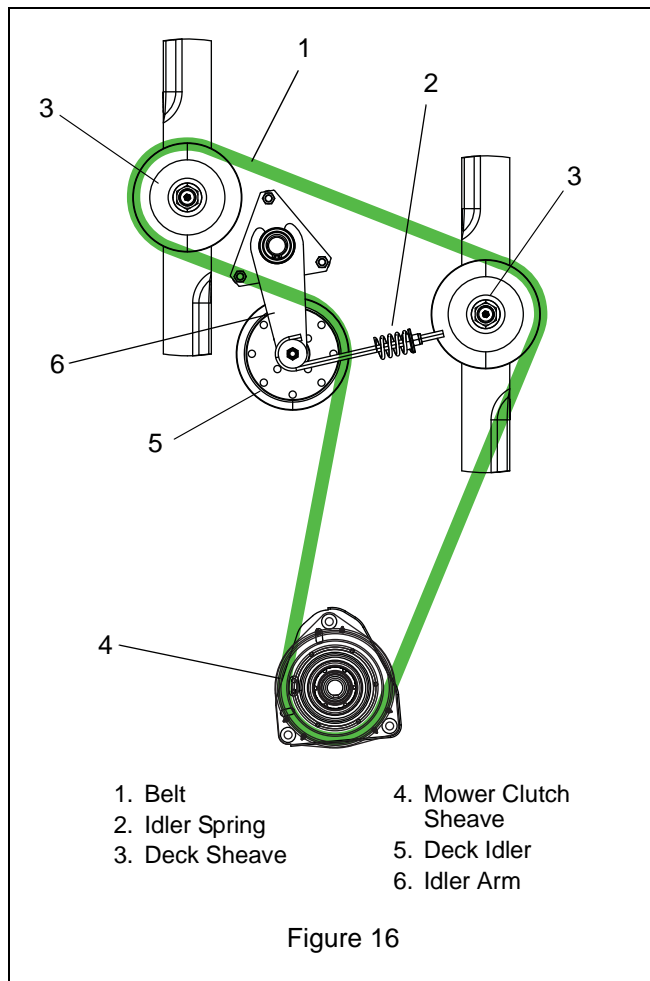

Figure 16
6. Tighten the adjusting nut to tension the belt. Tighten the nut until the idler spring compresses to 5.1cm +/- 0.32cm (2 in. +/- 1/8 in.). See Figure 16.